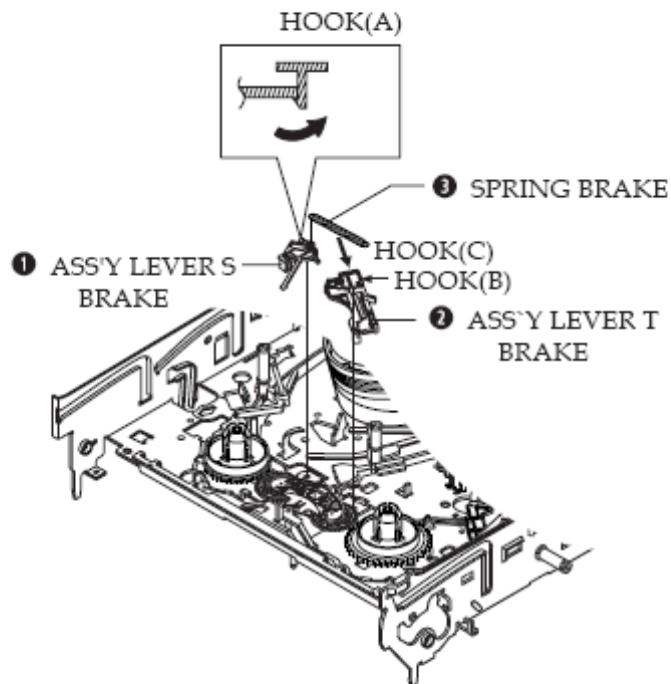

Fig. 3-25 Ass'y Lever Brake S, T Removal
- 1) Remove the Ass'y Lever Brake S (Refer to Fig 3-25).
- 2) Remove the Spring Tension Lever ❶.
- 4) Lift the Ass'y Lever Tension ❷ & Ass'y Band brake ❸.
- 1) Release the Hook [A] and the Hook [B], [C] in the direction of arrow as shown in Fig 3-25.
- 2) Lift the Ass'y Lever S, T Brake ❶, ❷ with spring brake ❸.